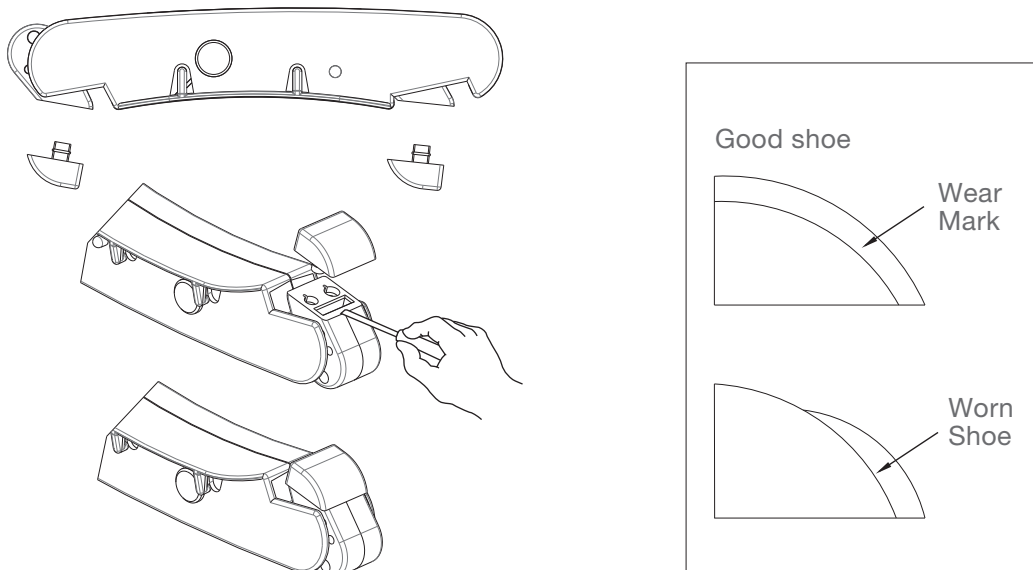
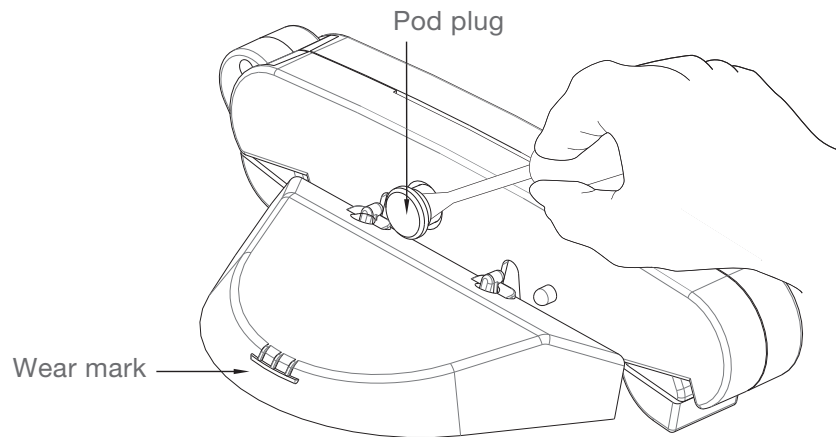

Fig. 9
Fig. 10
The shoes and wings have wear indicators on their sides and should be checked occasionally to determine if they need replacing. The shoe wear indicator is a line on the side of the shoe that appears as a difference in texture. When this texture difference is no longer visible at the bottom of the shoe when viewed from either side, the shoes must be changed (see Fig. 9). Also on the side, the wing wear indicator is a horizontal line which has three vertical lines above it. When you can no longer see the horizontal line, the wings must be changed (see Fig. 10).
- B. Insert screwdriver between foot and shoe on one of the pods (see Fig. 9).
- A. Using a screwdriver, remove the plugs from both pods (see Fig. 10).